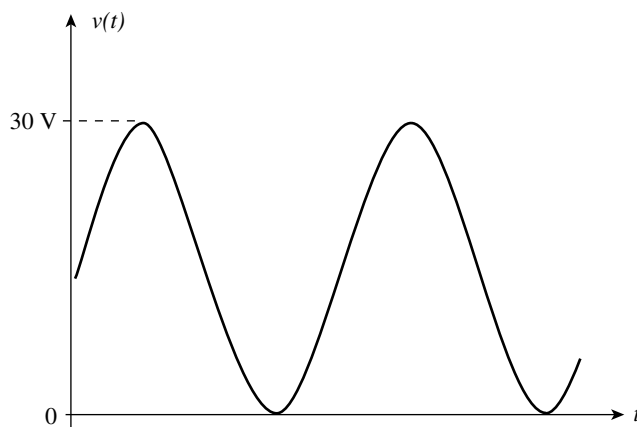

FIGURE 25–46
One method of building a frequency multiplier circuit is to generate a signal which is “rich” in harmonics. A full-wave rectifier is a circuit that converts a sine wave (which consists of only one frequency component) into one which appears as shown in Figure 25–17. As we see, the waveform at the output of the full-wave rectifier is composed of an infinite number of harmonic components. By applying this signal to a narrow-band-pass filter, it is possible to select any one of the components. The resulting output will be a pure sine wave at the desired frequency.
1. a. Determine the rms voltage of the waveform shown in Figure 25–46.
2. Repeat Problem 1 if the waveform of Figure 25–47 is applied to a 250- Ω resistor.